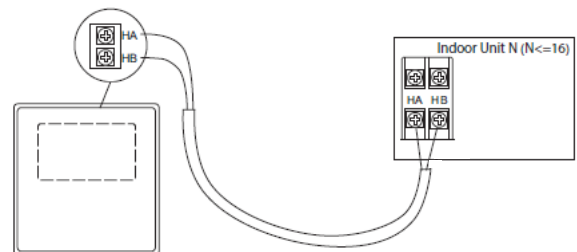
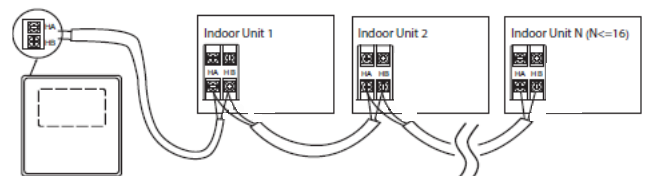

Fig. 5 — One-to-One Controller Connection
Fig. 6 — Group Controller Connection
8. Using 2-core shielded twisted pair cable, 16 to 20 AWG (American Wire Gauge), attach the control cable to the HA/HB terminal on the unit and other end to the controller HA/HB terminal. For connecting the controller to a single indoor unit see Fig. 5. For connecting the controller to multiple indoor units see Fig. 6.